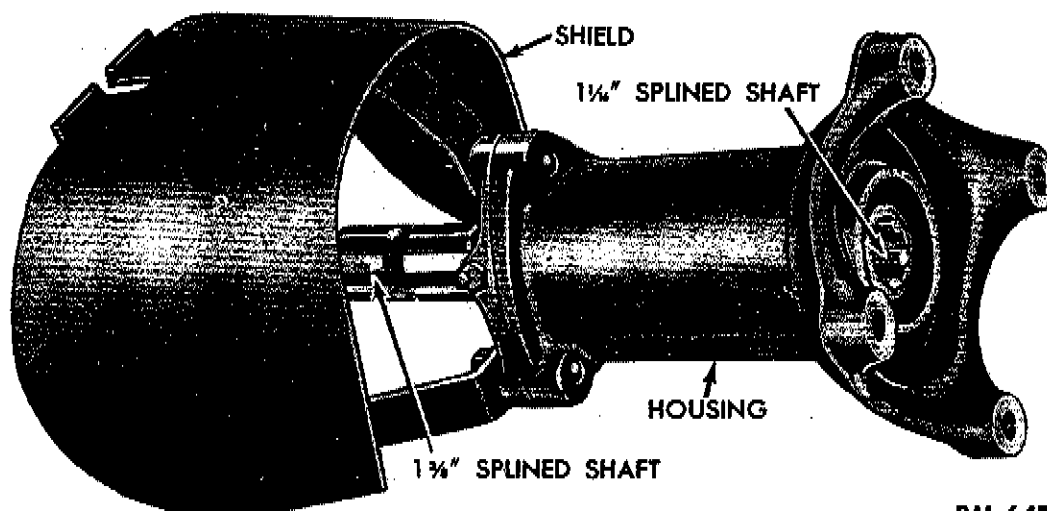

Fig. 44—Power Take-off Adapter
a. **Power Take-off Adapter.** To disassemble the power take-off adapter, remove the three cap screws which secure the shield and bearing cap (fig. 44) to the housing. Remove the shield and bearing cap from the housing. Drive the bearing and shaft assembly out of the housing. Grind the head off the rivet that secures the sleeve to the shaft. Remove the rivet from the shaft and sleeve. Pull the sleeve off the shaft. Remove the oil seal from the housing.